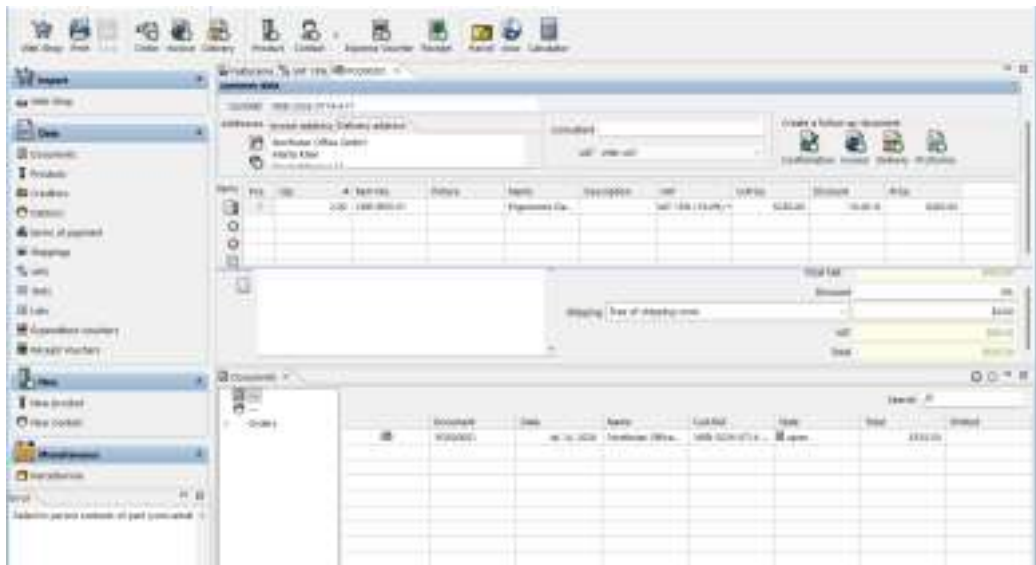

Figure 8. Illustrative saved single-line Order with its reference, totals, open state, and follow-up actions.
- 4.5. Open **Data > Documents** and confirm one **Order** row with the generated number, expected **Date** and **Cust.Ref.**, open state, and **Total**. See Figure 8.